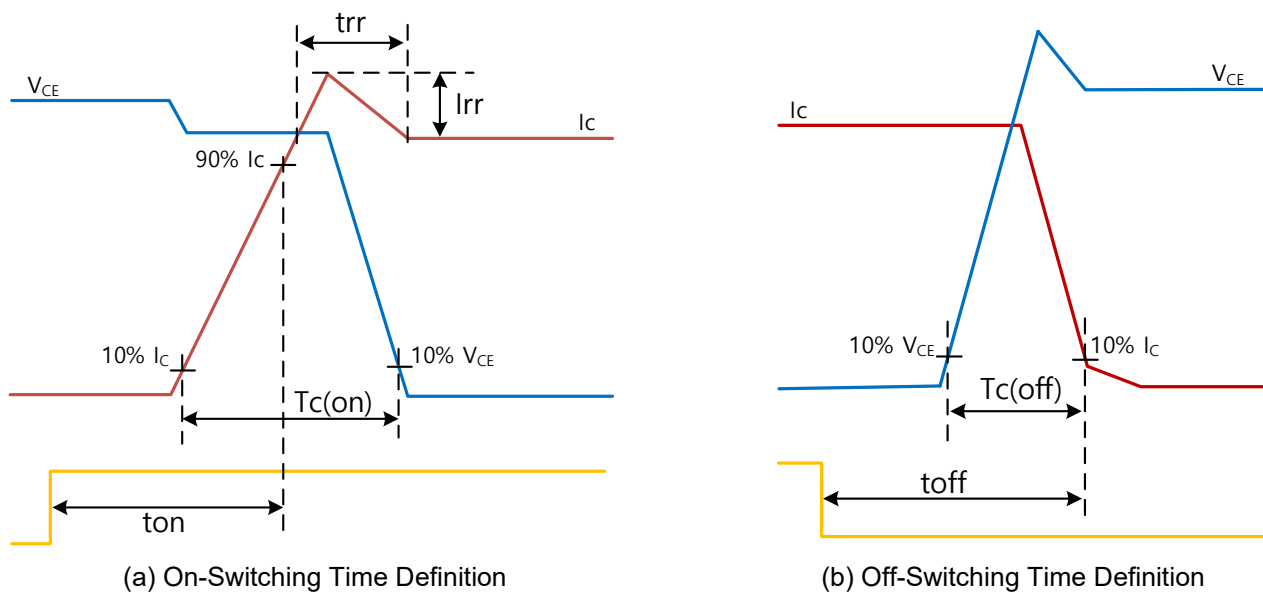

Fig. 3 Switching Time Definition
1. t_{on} and t_{off} include the propagation delay of the internal drive IC. $t_{C(on)}$ and $t_{C(off)}$ are the switching times of IGBT under the given gate-driving condition internally. For the detailed information, please see Fig. 3.
Switching time definition and performance test method are shown in Fig. 3 and Fig. 4 Switching characteristics are measured by half bridge circuit with inductance load.